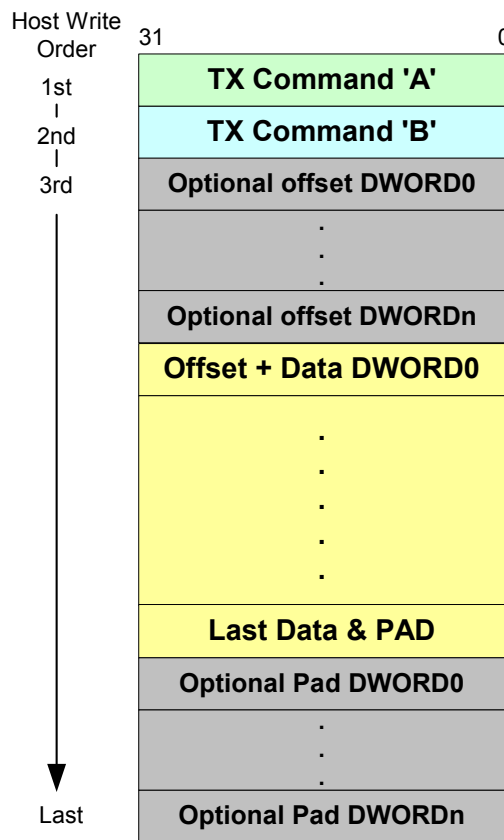

Figure 3.13 TX Buffer Format
Figure 3.13, "TX Buffer Format", shows the TX Buffer as it is written into the LAN9215. It should be noted that not all of the data shown in this diagram is actually stored in the TX data FIFO. This must be taken into account when calculating the actual TX data FIFO usage. Please refer to Section 3.14.5, "Calculating Actual TX Data FIFO Usage," on page 50 for a detailed explanation on calculating the actual TX data FIFO usage.
**Note 3.14** The LAN9215 host bus interface supports 16-bit bus transfers; internally, all data paths are 32-bits wide. Figure 3.13 describes the host write ordering for pairs of atomic 16-bit transactions.